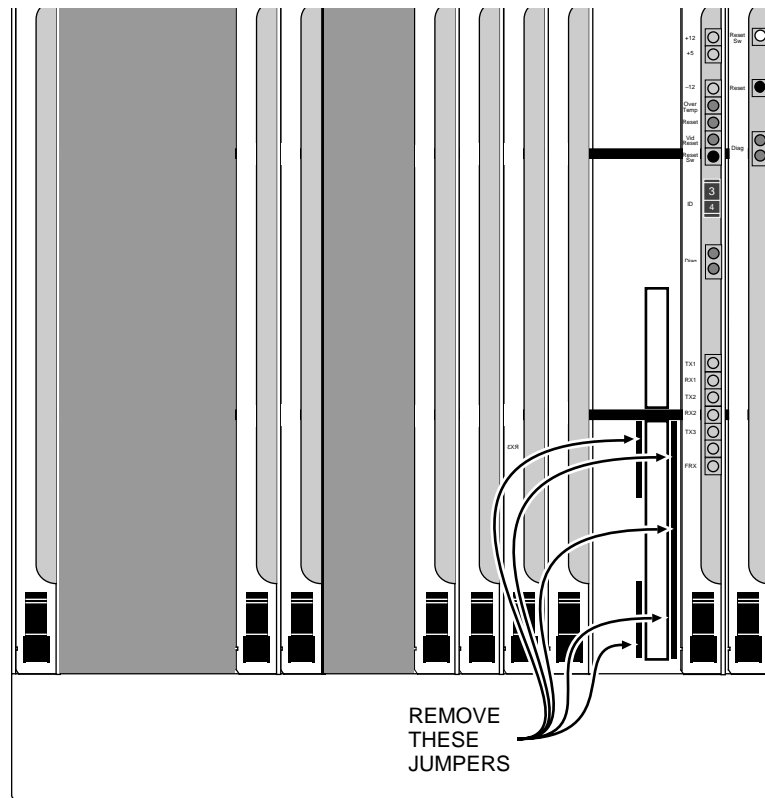

Figure 2-26. Output Recursive Jumpers
1. Power off the frame, open the door, and locate the mother board. Several jumpers reside near the bottom connector of slot 15 (Figure 2-26). These jumpers are in blocks of 10 and there are three blocks to the right of the connector and two blocks to the left of the connector. All of these jumpers must be removed. It may be necessary to remove other modules and use an angled prying tool to remove the jumpers. Save these jumpers in case you want to run the system without the Output Recursive module.